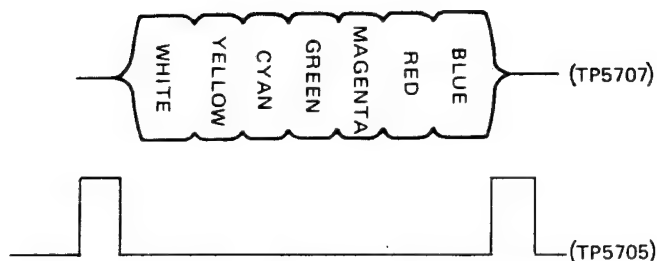

Figure 63.
2. Adjust T5701 so that the amplitude difference among each chroma signal becomes the least as shown in Fig. 63.